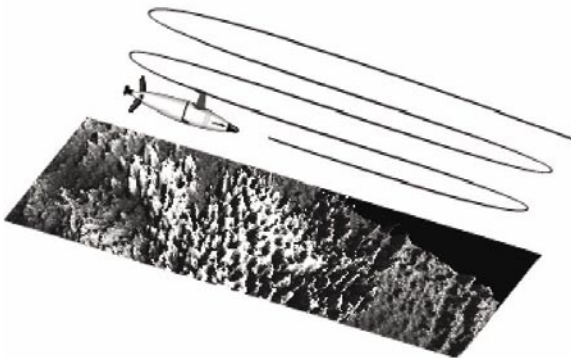

Fig. 2. AUV swimming a lawn mower pattern over a reef (shown as a side scan sonar image).
In 2002, an AUV known as “Fetch” was used at the *Aquarius* site to gather data on the oxygen concentration and pH of the water around the reef. These snapshots of data allowed scientists to determine how photosynthesis, respiration, and weather affect how much oxygen there is on the reef over the course of a day or a season. The AUV must swim complex patterns around the reef (see Figure 2) to gather underwater data to describe variations in oxygen and pH conditions (see Figure 3).
4. (Optional) For more advanced students, refer back to Figure 2 and try the computations in “What a Drag!”